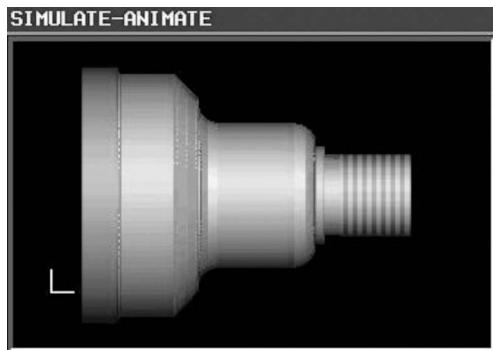

Figure 7-36 Finished Turning Example Part
50. SIMULATE the toolpath to confirm correctness (Figure 7-36).